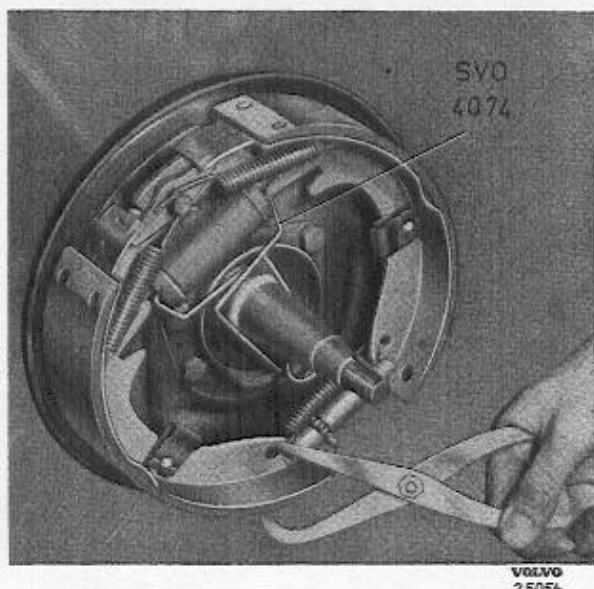
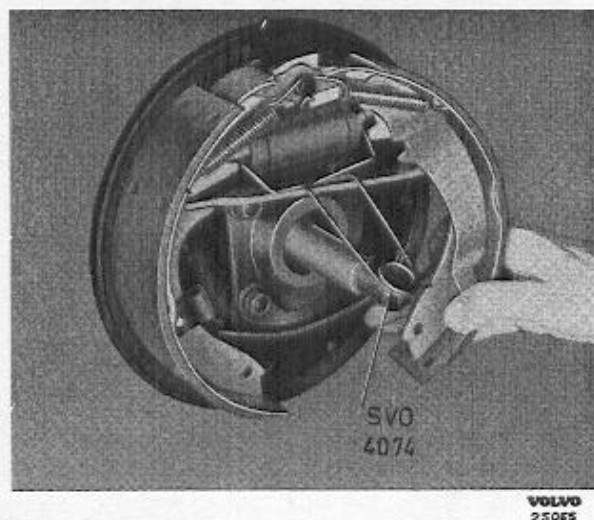

Fig. 30. Removing the locking spring.
Fig. 31. Removing the brake shoe.
3. Fit on the clamp SVO 4074 as shown in Fig. 30 so that the plungers in the wheel unit cylinder cannot be pressed outwards. The procedure for removing the shoes depends on which tool is used.
The locking spring is disconnected with the help of the brake spring pliers as shown in Fig. 30. Pull apart the shoes and remove the adjusting device. Hold against the guide pin on the rear side of the brake backing plate and remove the locking clamp. Turn the shoe outwards until the
push rod of the wheel unit cylinder is released, see Fig. 31. Then turn the shoe inwards until the return spring can be disconnected and the shoe lifted off. Remove the other shoe in the same way.
With the help of brake spring pliers, the locking spring is disconnected as shown in Fig. 30. Pull apart the shoes and remove the locking clamp for the rear shoe. Turn the shoe outwards until the push rod from the wheel unit cylinder together with the handbrake link are released, see Fig. 31. Then turn the shoe inwards until the return spring can be disconnected and the shoe lifted off. Remove the other shoe in the same way.